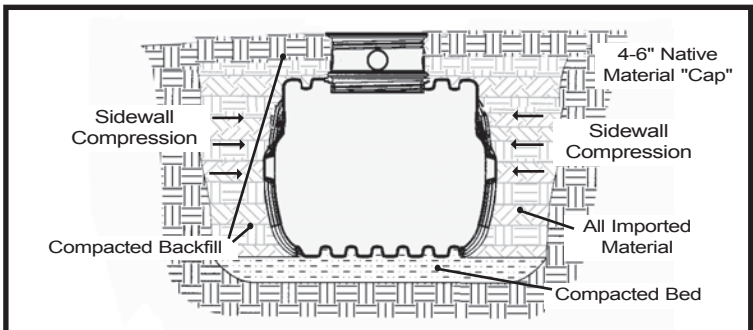

**FIG.3** Plumbing Install
- Install the inlet and outlet tees, as required. (Fig. 3) Plumbing tees shall be located as close to the entrance point of the tank as possible (just inside the manway opening). Plumbing tees and gas-baffles are factory provided for Indiana tanks.
- Install the required Roth threaded Septic Access Riser System (STAR™), provided separately. (Fig. 3) See reverse for directions for sealing the riser system.
- Using the corner lifting holes, lower the tank into the excavation. Level the tank, and verify the outlet is lower than the inlet. Install remaining inlet and outlet plumbing. (Fig. 3)